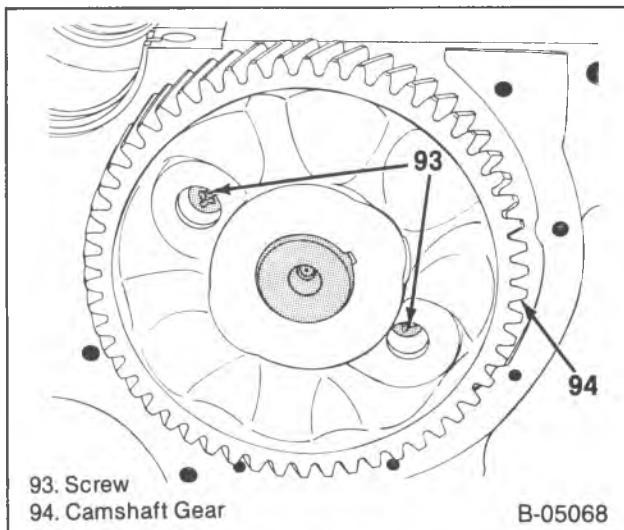

Figure 23—Camshaft Thrust Plate Screws
- Turn the camshaft (182) until the screws (93) are visible through the holes in the camshaft gear (94) (figure 23).
1. Screws (93).
2. Camshaft (182). Pull the camshaft out of the block. **Support the camshaft carefully when removing to prevent damage to the camshaft bearings.**